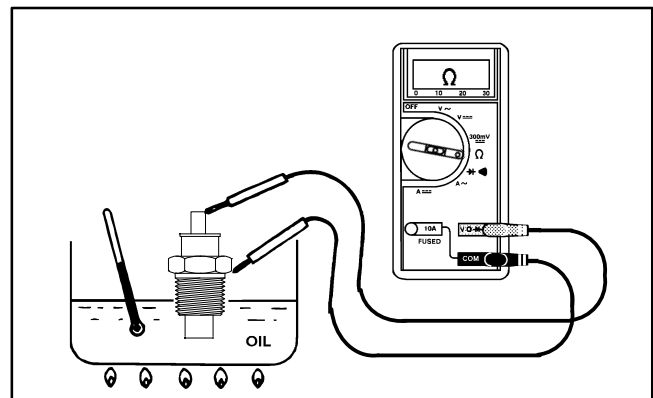

Figure 37
4. Put fan switch in a container of oil with a thermometer and slowly heat the oil (Fig. 37).